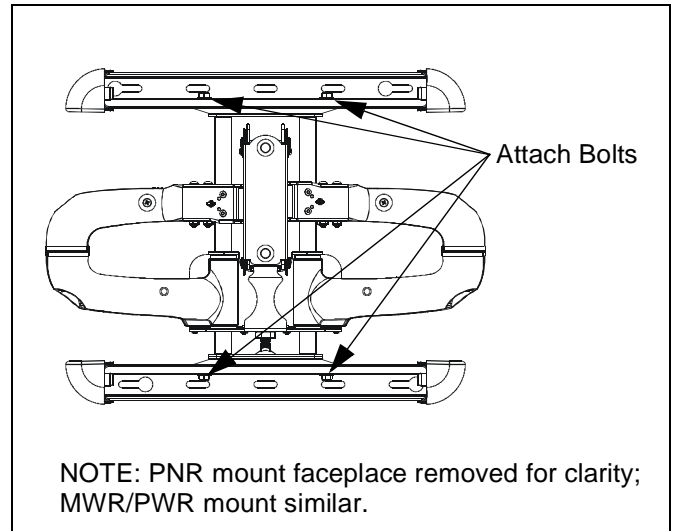

Figure 5: Remove Mount
- Using 9/16" wrench, remove and discard four bolts and washers attaching top and bottom brackets to mount assembly (See Figure 5). Place mount assembly on protective surface.